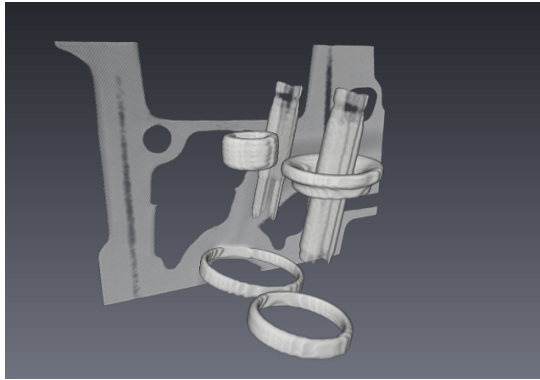

Figure 3.37: Data window now selects high density material
- Attach a *Volume Rendering* module to the data once again: the aluminum part is hidden now, leaving only higher density steel visible, as shown in Figure 3.37.